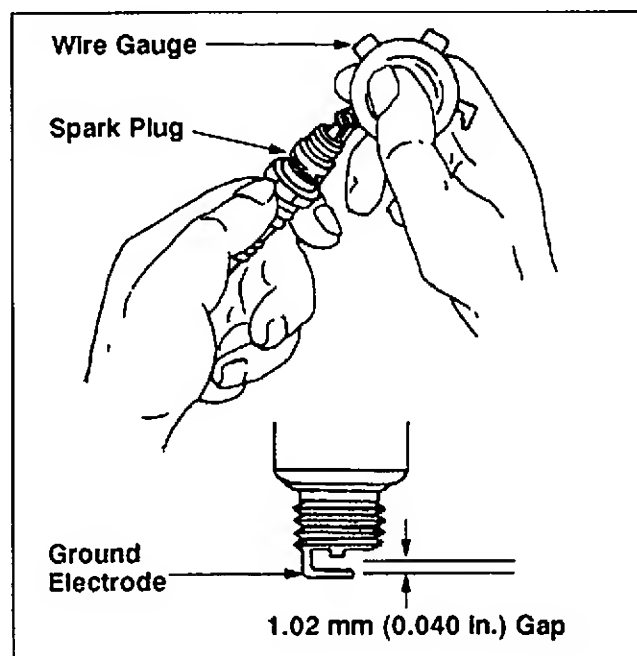

Figure 8-1. Servicing Spark Plug.
3. Check the gap using a wire feeler gauge. Adjust the gap to **1.02 mm (0.040 in.)** by carefully bending the ground electrode. See Figure 8-1.